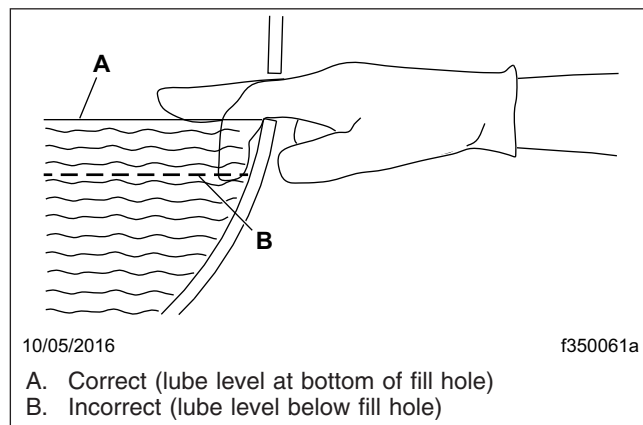

Fig. 2, Axle Lubricant Level Inspection
- 5.1 Fill the axle through the oil fill hole. Lubricant should be level with the bottom of the oil fill hole. To check fluid level, see **Fig. 2**.
Lubricant should be level with the bottom of the oil fill hole. To check fluid level, see Fig. 2.